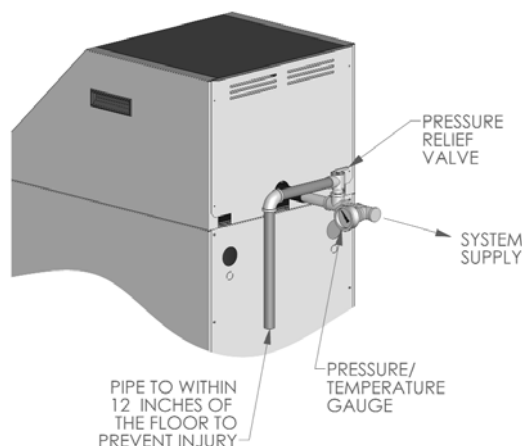

Figure 4.2
8. *Pressure Relief Valve:* A pressure relief valve is supplied with each boiler for installation in the supply piping. Figure 4.2 shows the installation of the pressure relief valve and the temperature/pressure gauge. The relief valve discharge is to be piped within 12" (305mm) of the floor and close to a floor drain. Provide piping that is the same size or larger than the relief valve outlet.